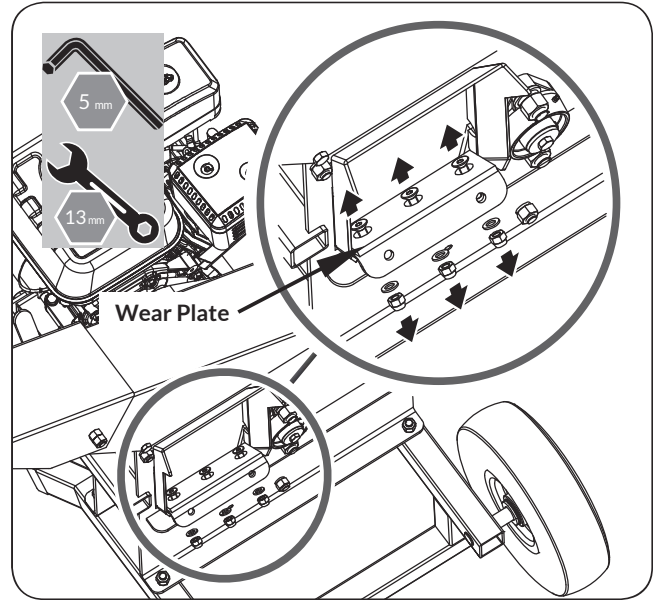

Figure 17
2. Remove the locknuts and bolts that attach the wear plate to the chipper assembly and then remove the wear plate. (See **Figure 17**)